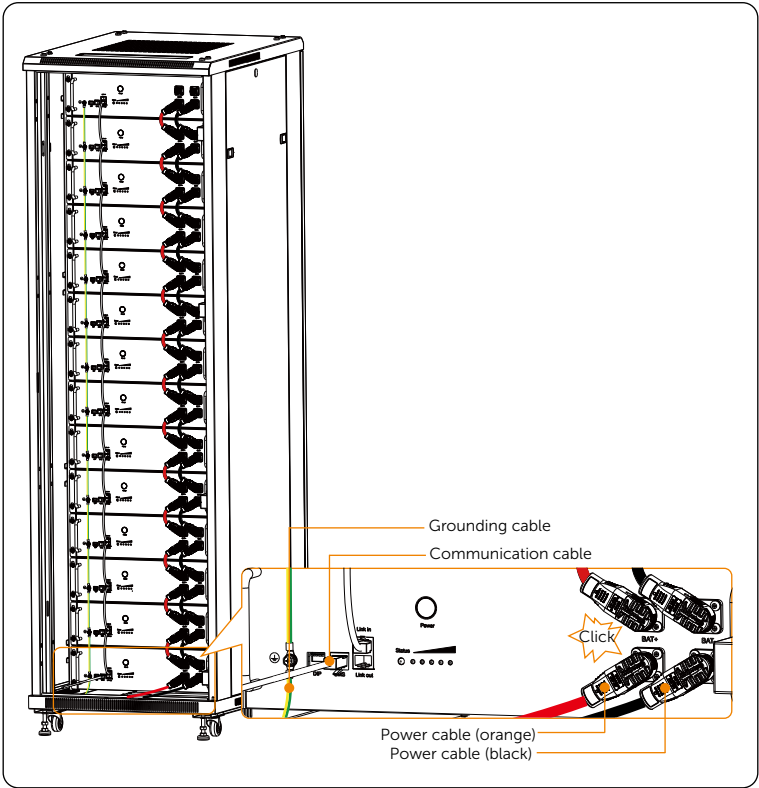

Figure 7-10 Connecting cables between the battery module and the inverter
- Wiring from the bottom battery module to the inverter, please refer to Figure 7-10.